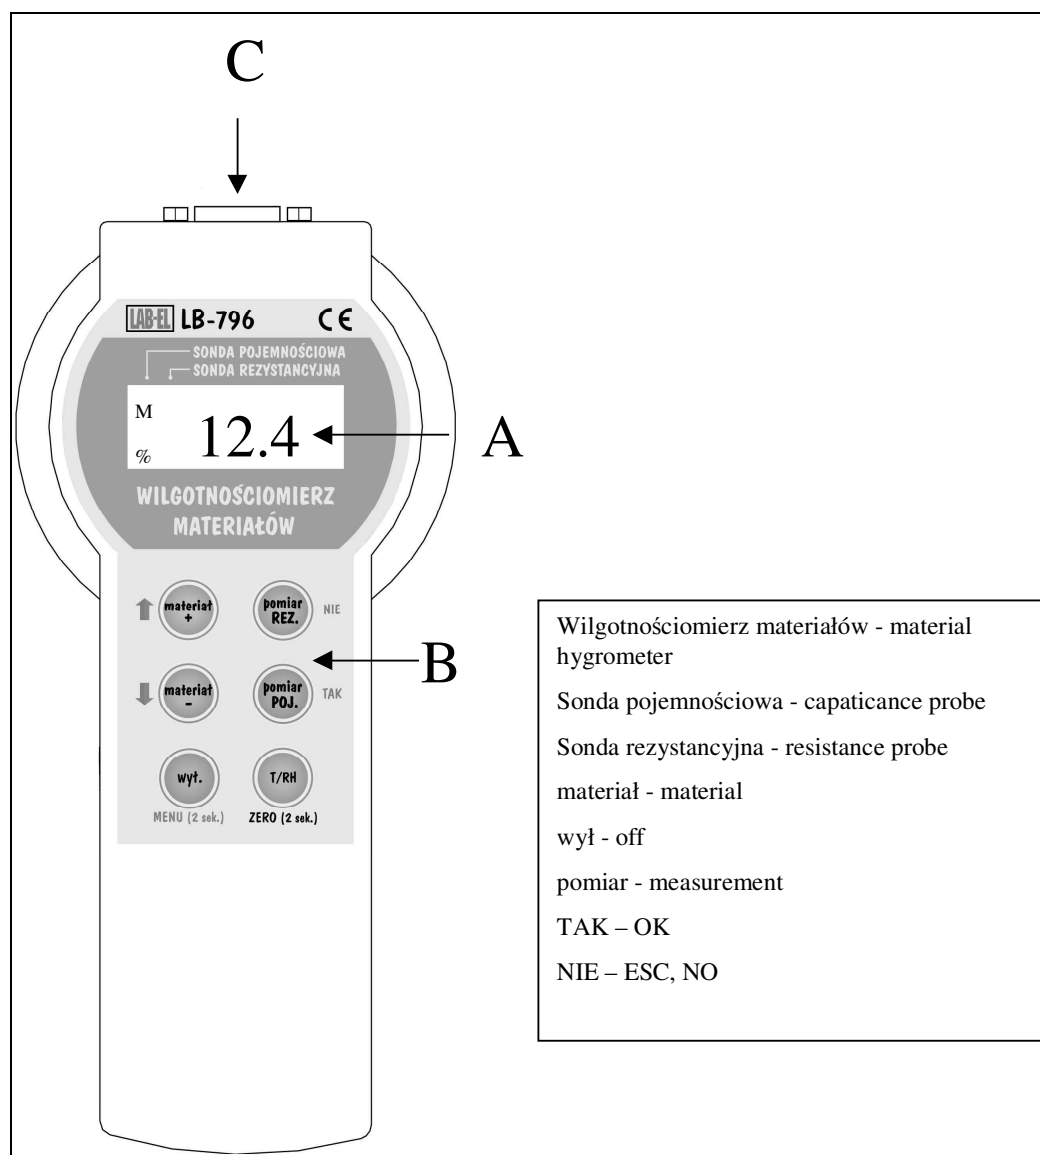

Figure 1 Panel LB-796P – view from the keyboard
Location of elements on the LB- 796P panel, which are accessible for the user, is presented one the Figure 1.
- connect hygrometer LB -797 and reading panel LB-796 (to the socket labeled as C on Figure 1), attach it to the socket with the screws included in the probe plug
Before switching on the device should be connected to the reading panel LB- 796 and to the LB -797 probe (to the socket labeled as C in Figure 1).
- connect hygrometer LB -797 and LB- reading panel 796 (to the socket labeled C in Figure 1), attached to the socket with the screws included in the plug probe,
- connect hygrometer LB -797 and reading panel LB-796 (to the socket labeled C in Figure 1), attach it to the socket with the screws included in the plug probe,